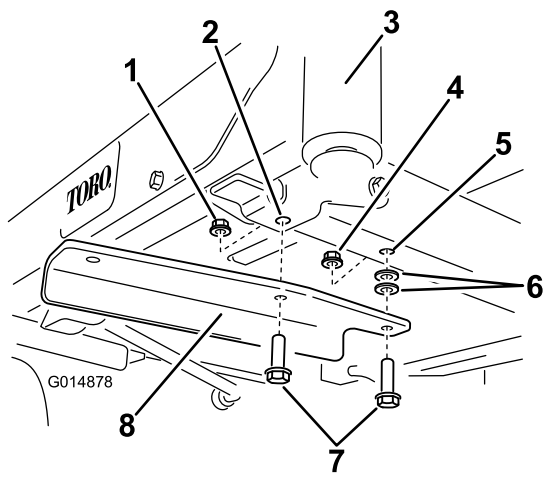

Figure 5
4. Install the left bracket to the under side of the frame using 2 bolts (3/8 x 1-1/4 inches), 2 washers and 2 locknuts (3/8 inch) (Figure 5).